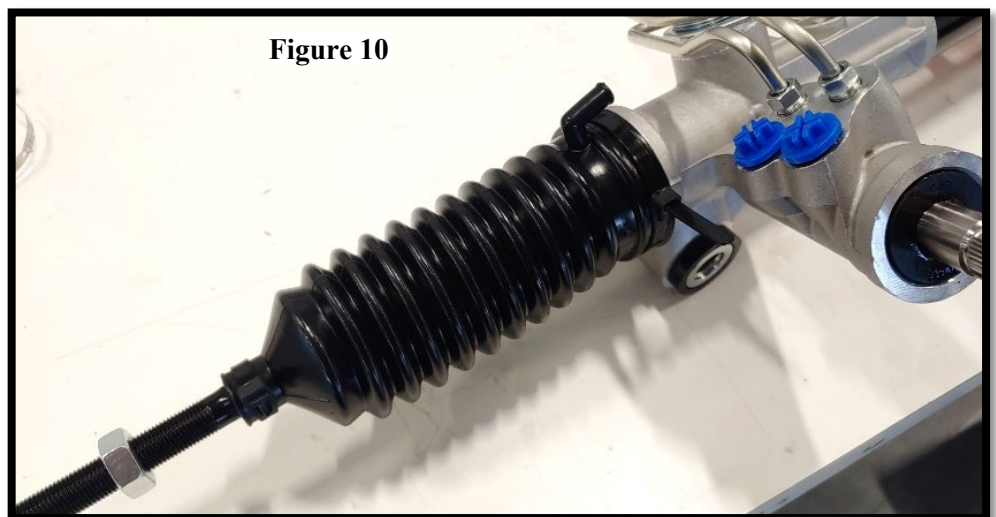

Figure 10
21. Once the rack extensions are installed on both sides of the rack, install the new dust boots and secure them with ties. **(Figure 10)**